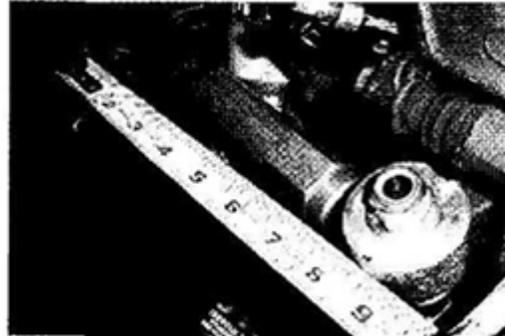

Figure 2
9. Using a tape measure or metal ruler, mark a location on the knuckle and note the measurement as well as the exact location of the tip of the ruler. You will use this reference point when re-assembling the system. **Figure 2** (installed kit shown)
16. Jack the control arm up to the same level position used in Step 8. Adjust the length of the new rod end assembly until it matches the length of the original outer tie-rod by duplicating the measurement as noted in Step 9. Tighten the jam nuts to secure the length of the assembly. **Figure 2** Be sure to check the alignment of the inner tie-rod and the outer rod end to verify they are in the same plane before tightening the jam nuts. If they are not in the same plane, they can be damaged as the suspension cycles through the normal motion. Figure 5 shows an inner tie-rod that is slightly misaligned with the outer rod end in Figure 6.